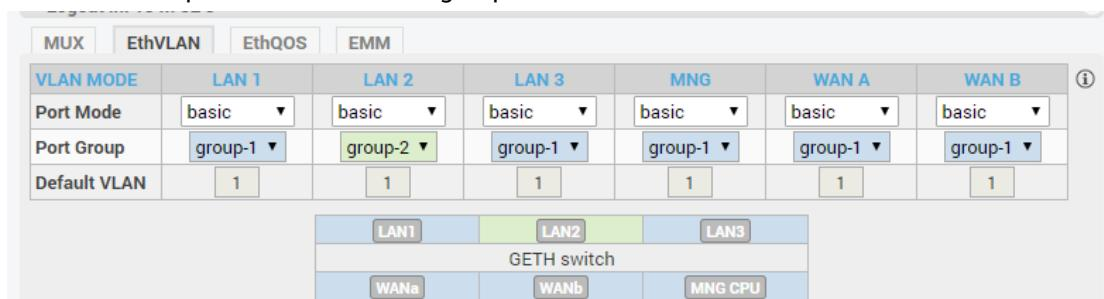

Figure 5.1 Example of group configuration for WANA and WANB ports
- 3) In the same web GUI page for the second WAN port (the one which is not interconnected with SFP port) choose option ETH1a in 'Channel Select' drop-down thus interconnecting the second WAN port with data channel over the RF (refer to **Figure 5.3**). In order to have remote MNG access the MNG port must be in the same group with both WAN ports (refer to **Figure 5.1**).